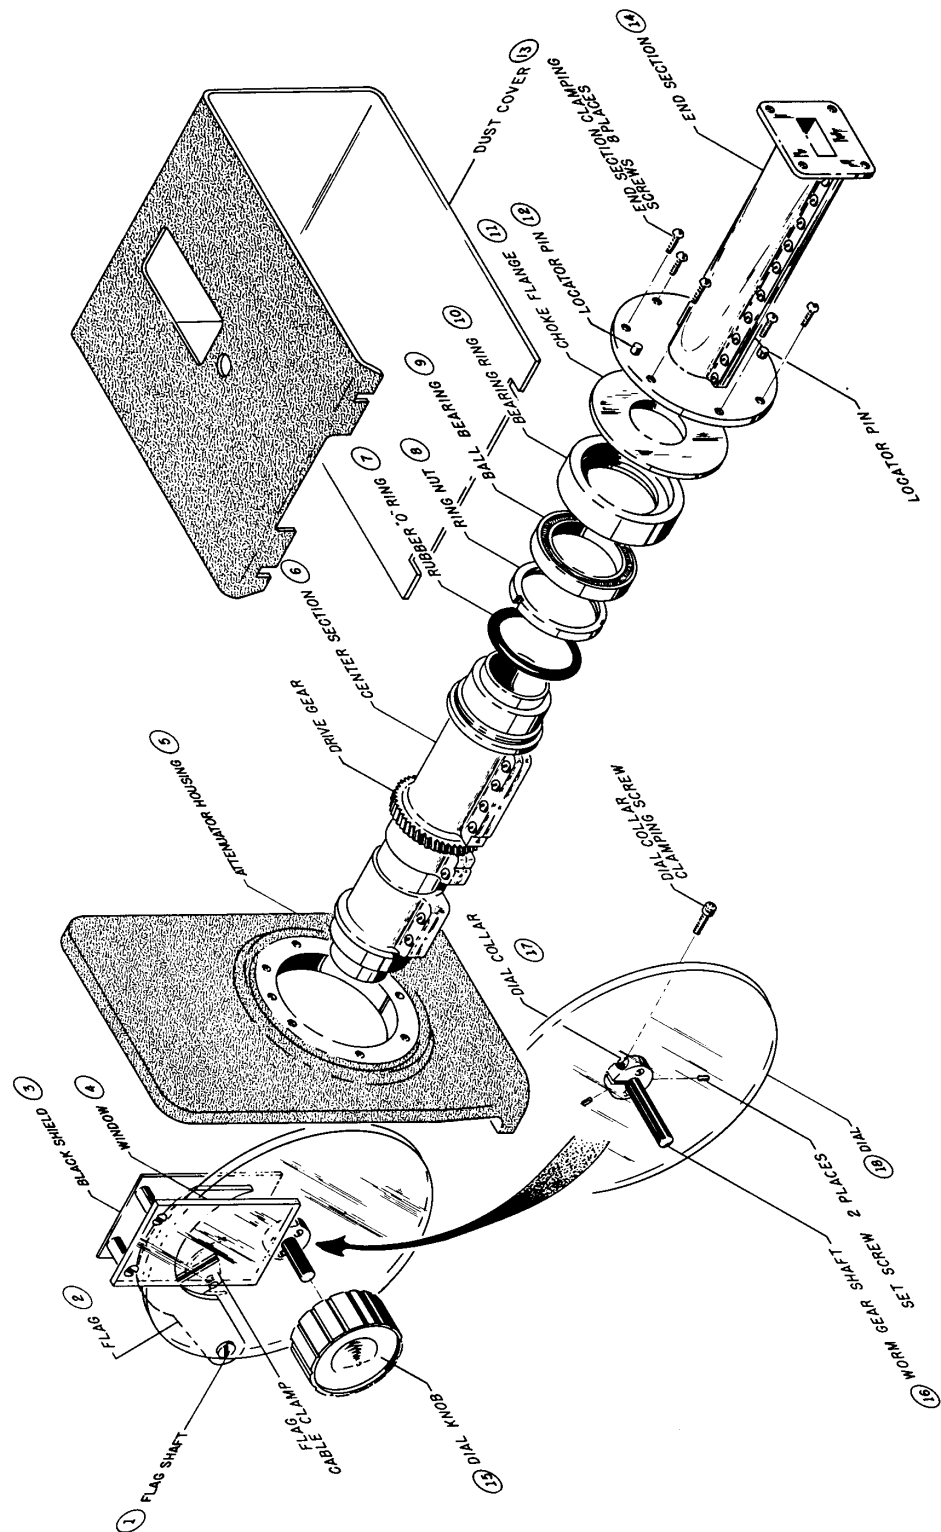

Figure 7 Agilent 382A Attenuator Assembly Detail
5. Drive locator pins to center of unit with punch. See Figure 7. Note: In some models the drive pin is an integral part of the casting. If pins are not visible from the outside, disregard step 5.
7. With dial set to "0" (zero) mark top of center section as shown in Figure 7. Remove center section through end section opening.
- See Figure 5 on page 13 and Figure 7 on page 19 for pictorial key to Reference Item numbers listed.